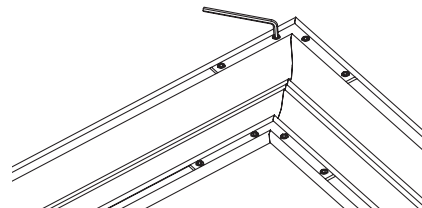

Figure 6
- ③ Secure corner brackets by tightening setscrews (see Fig. 6).